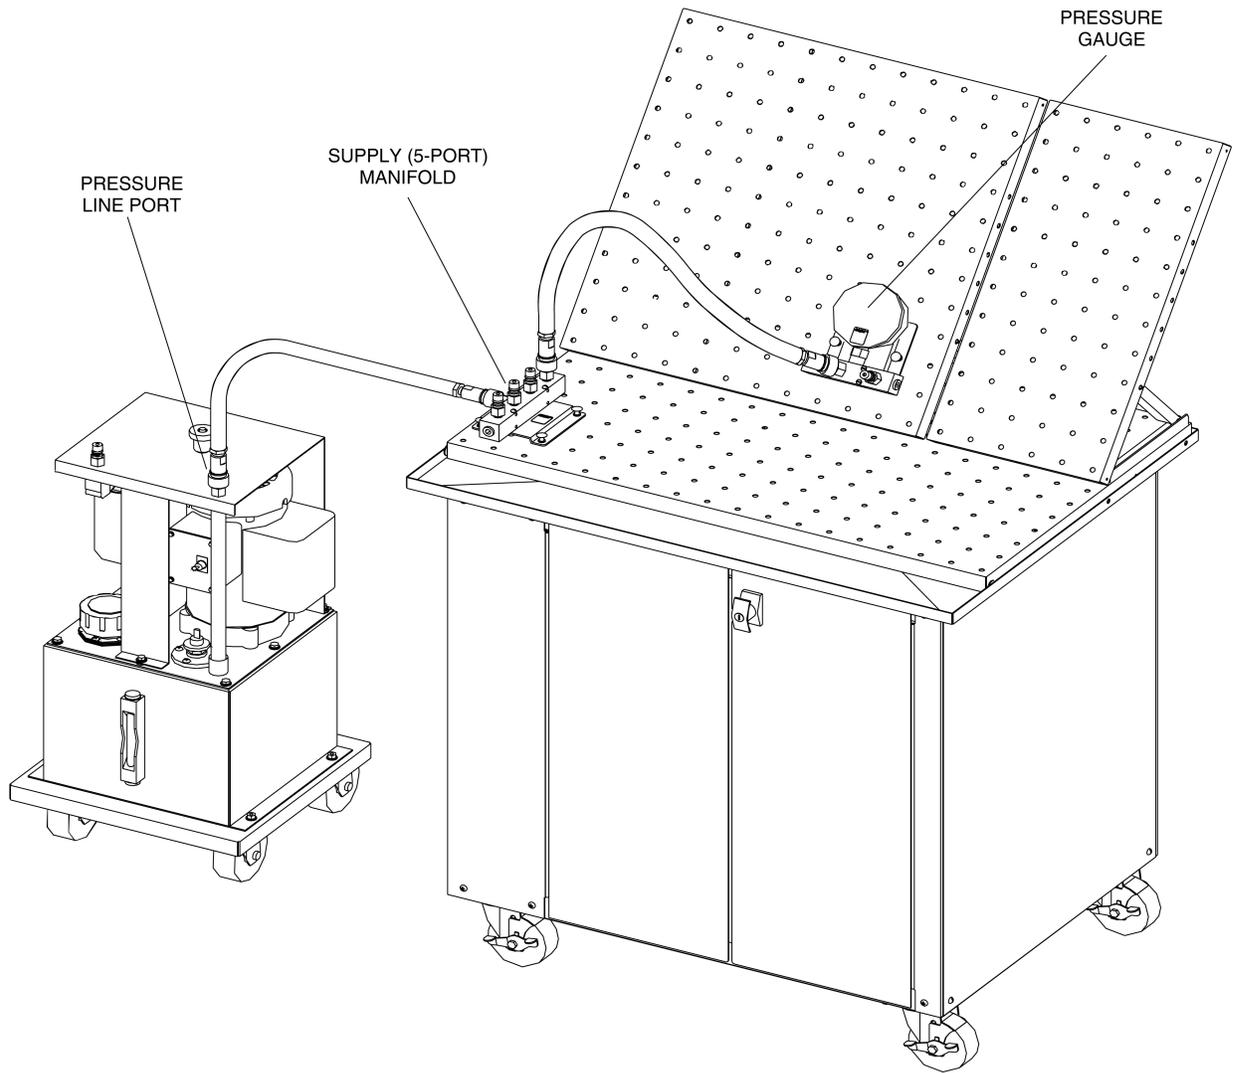

Figure 1-14. Basic circuit to mount.
- 10. Set up the basic circuit shown in Figure 1-14. To do so, perform the following steps:
- b. Connect a hose between the pressure line port of the Power Unit and the input port of the supply manifold, as Figure 1-14 shows. Connect a second hose between one of the four remaining ports on the supply manifold and one of the three ports on the Pressure Gauge.